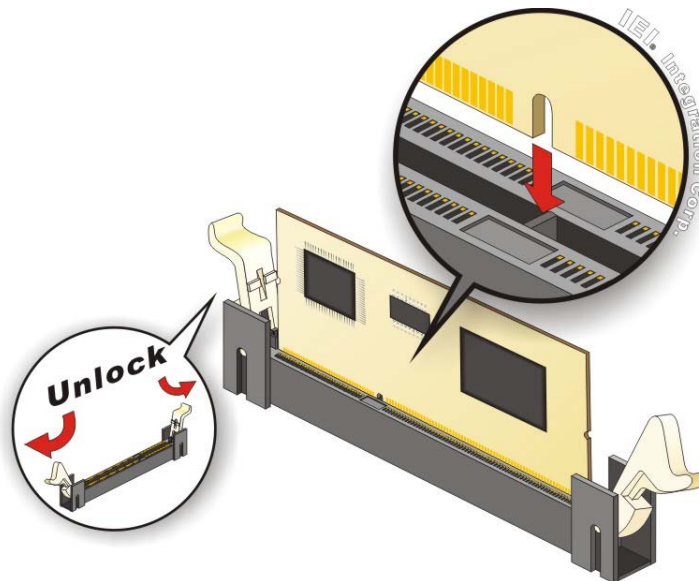

Figure 4-7: iRIS Module Installation
To install the iRIS-2400 module, please follow the steps below and refer to **Figure 4-7**.
- Step 2:** Open the socket handles. Open the two handles outwards as far as they can. See **Figure 4-7**.
- Step 3:** Align the iRIS-2400 module with the socket. Align the iRIS-2400 module so the notch on the module lines up with the notch on the socket. See **Figure 4-7**.
- Step 4:** Insert the iRIS-2400 module. Once aligned, press down until the iRIS-2400 module is properly seated. Clip the two handles into place. See **Figure 4-7**.